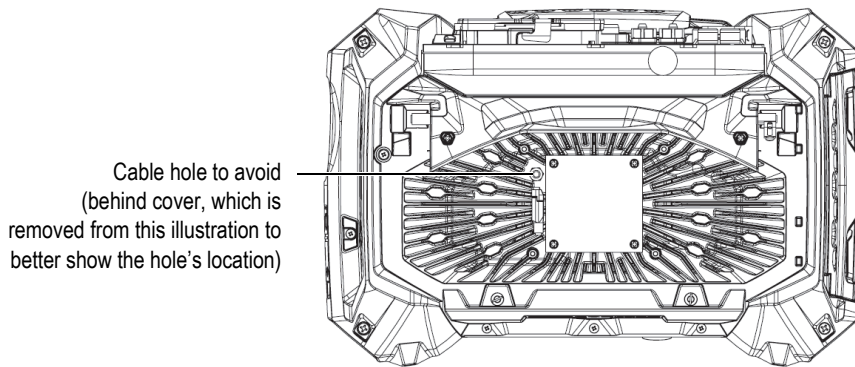

Figure 4-1 Interior of cooling fan enclosure (cover removed to show cable hole)
1. Check for presence of dust or dirt in the fan openings and carefully blow it away using compressed air in any direction from the exterior of the enclosure (maximum pressure 207 kPa [30 psi]), but do not blow directly into the cable hole in the fan enclosure (see Figure 4-1 on page 51).